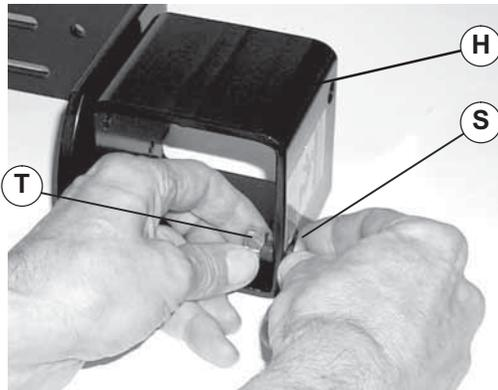

Figure 8
11. Install two M10 x 16mm button head screws (Figure 8, item S) and hex nuts (T) on leg support bracket (H). Do not tighten screws.